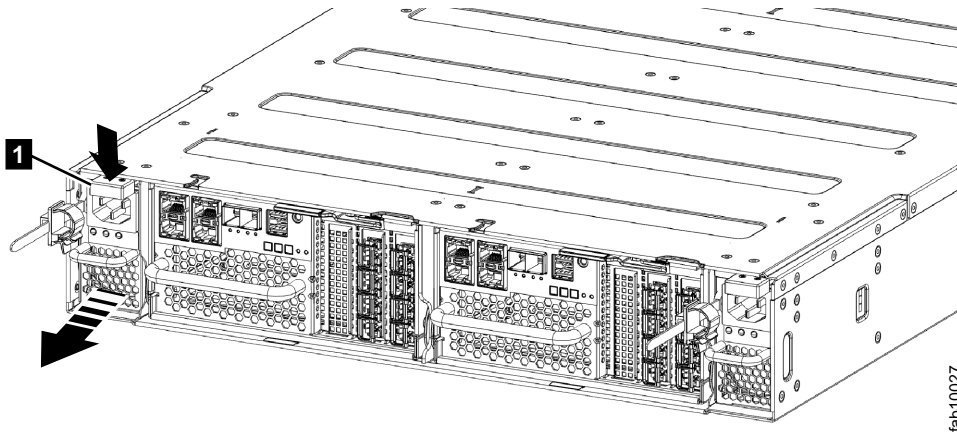

Figure 84. Removing the power supply unit (left side of enclosure)
5. Using the handle, firmly pull the power supply out of the enclosure shown in Figure 84 on page 302.